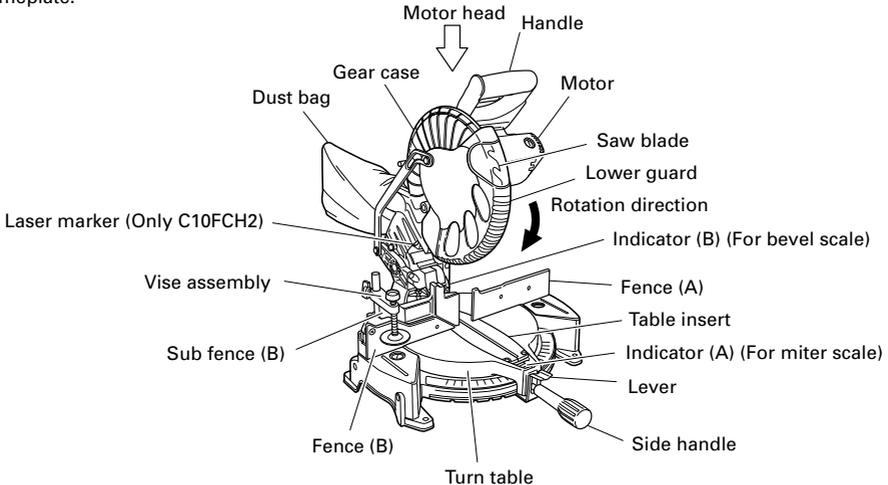

Fig. 2
5. Attach the dust bag to the main unit (Fig. 2)